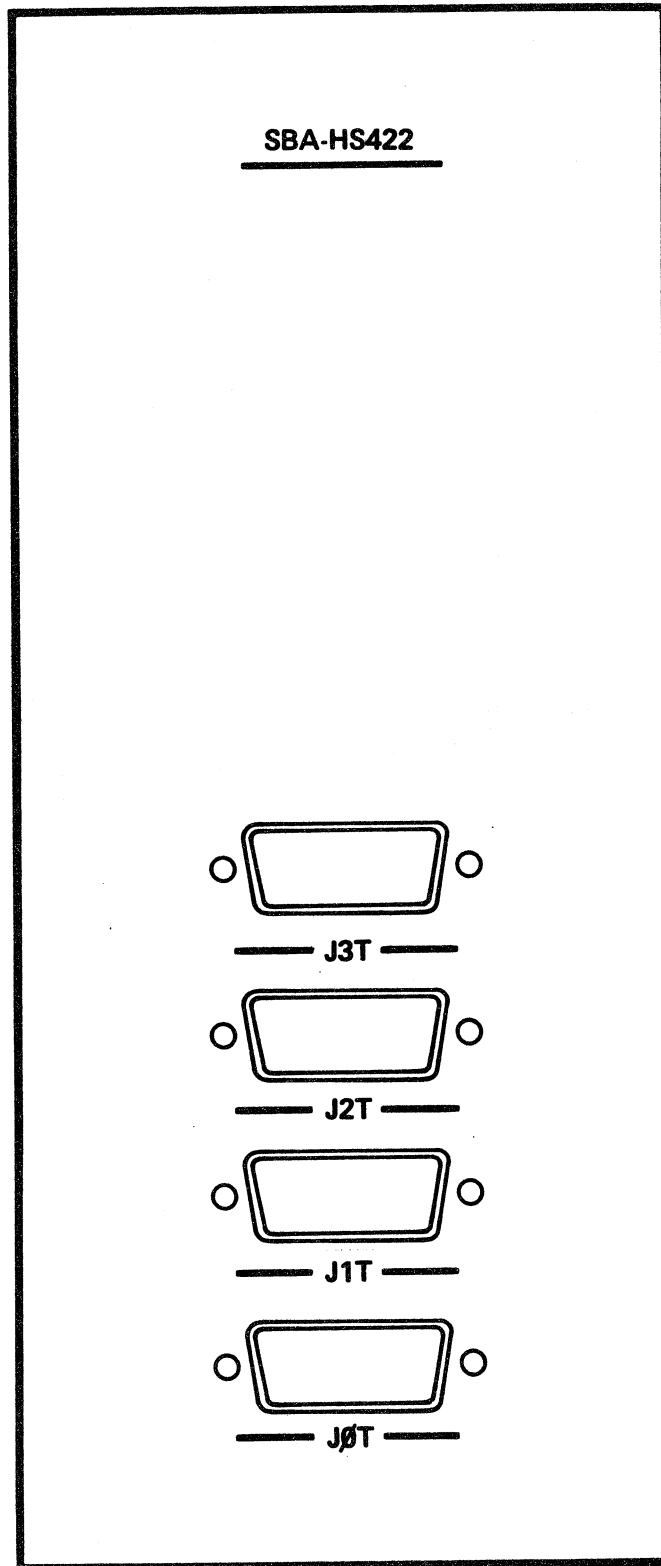

Figure 3-14 Connectors on the SBA-HS422 Assembly
All of the lines indicated in the CCITT Recommendation X.21 specification are fully implemented, with the exception of the optional byte timing line (B). An additional clock line (St) has been implemented. The connectors are 15-pin, D-Series male connectors (X.21 DTE-type). Cables compatible with these connectors must be supplied by the customer; the connectors are illustrated in Figure 3-14. Table 3-15 lists the serial device connector pin assignments for this module.